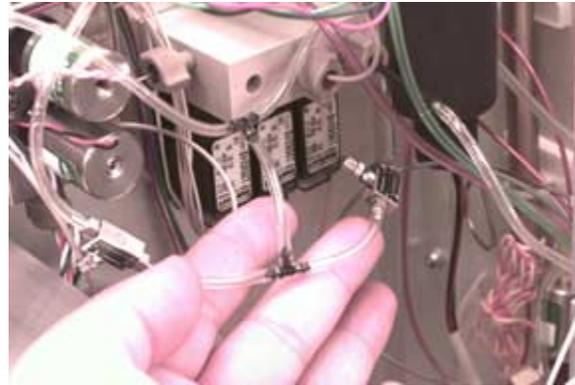

FIGURE 1.14.3
- 1.14.3 Feed the clear tubing from speed aire relief valve assembly (DY-503774-00) through three cable clamps on syringe plate assembly. Route the same tubing behind the water heater and connect to barb fitting on rear panel assembly above bulkhead fitting with a cable clamp (28-849707-00). Attach Tee tubing from syringe plate assembly to Tee fitting on speed aire relief valve assembly. See Figure 1.14.3